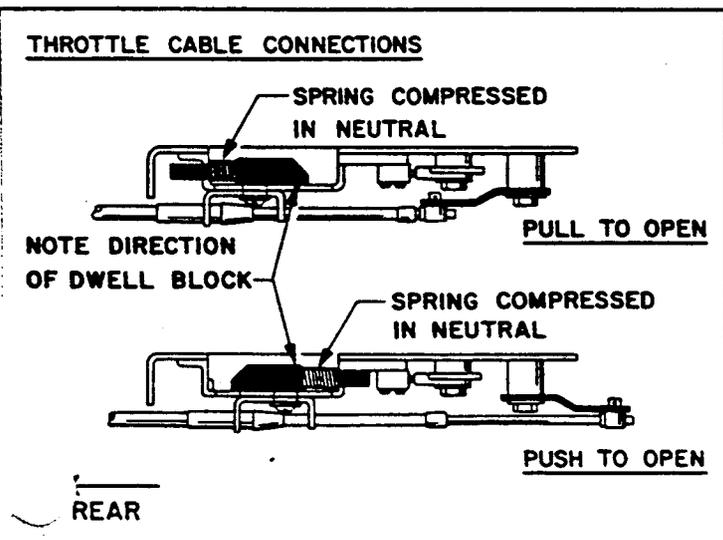

FIGURE 6
- a. Check carburetor throttle arm to determine whether push or pull is required to open throttle. See that throttle arm and spring dwell block are correctly assembled on control according to Figure 6.
- b. If action is incorrect, reverse throttle arm (20) by removing bolt (22) and lock-washer (21). Remove arm and reassemble in opposite position as shown in Figure 6.
This provides a means for absorbing the slight movement of the control head throttle arm during the shift cycle. (See Figure 6.).